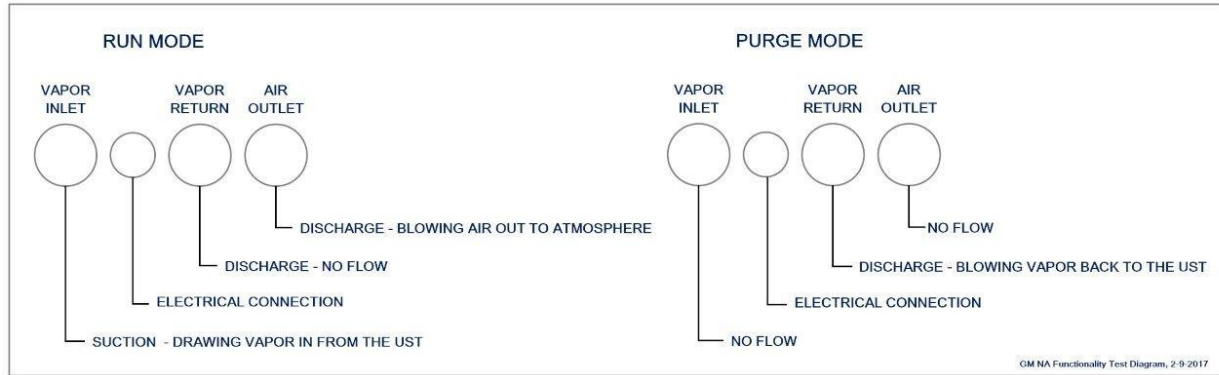

Figure 6-10: GREEN MACHINE Operation Diagram
7. During the 60-second Run mode: **See Figure 6-10.**
9. During the 60-second Purge cycle: **See Figure 6-10.**